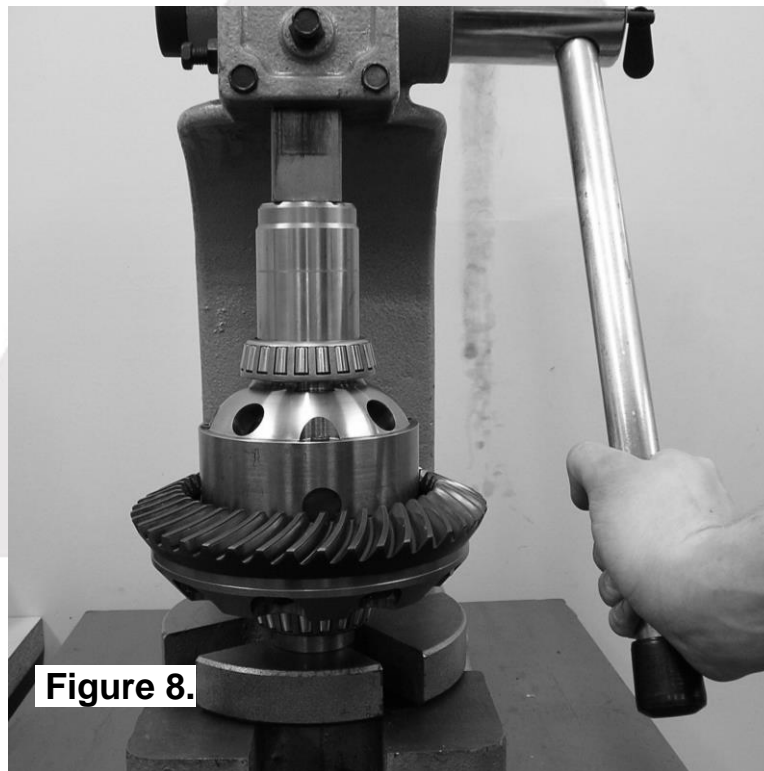

Figure 8.
- Press the case side (right hand side) tapered roller bearing cone onto the bearing journal of the *Air Locker* until the bearing seats firmly against the bearing journal shoulder (Fig. 8.).